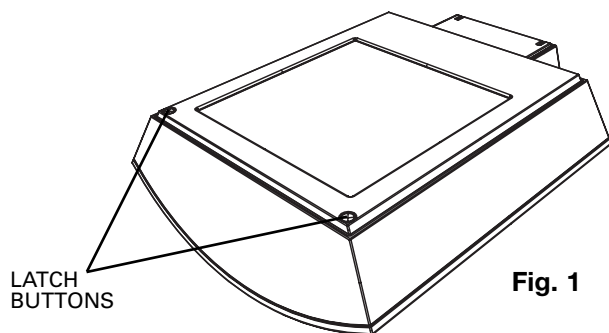

Fig. 1
1. Open door by depressing LATCH BUTTONS into door and lifting. (Fig. 1)
10. Open DOOR by depressing LATCH BUTTONS into door. (Reference Fig. 1)